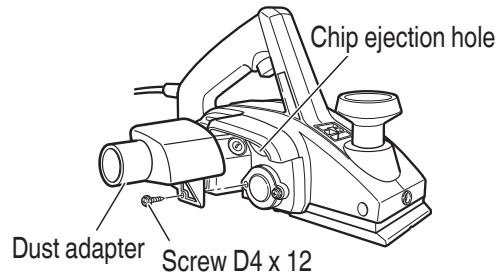

Fig. 21
- (2) Mount the dust adapter and secure with the attached screw D4 x 20. (**Fig. 21**)